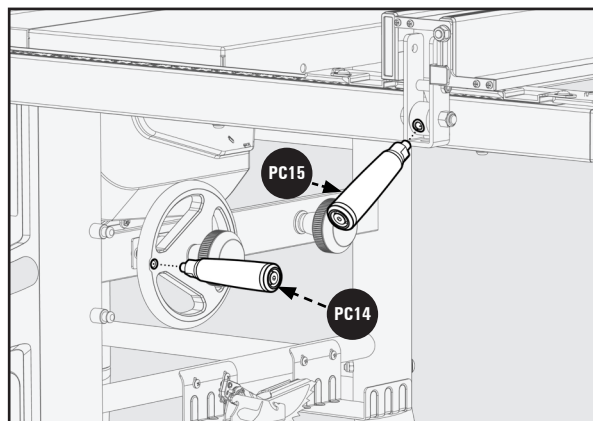

Figure 18
2. Insert one Handle **PC14** to the Bevel Hand Wheel located on the right side of the Saw, as seen in Figure 18.